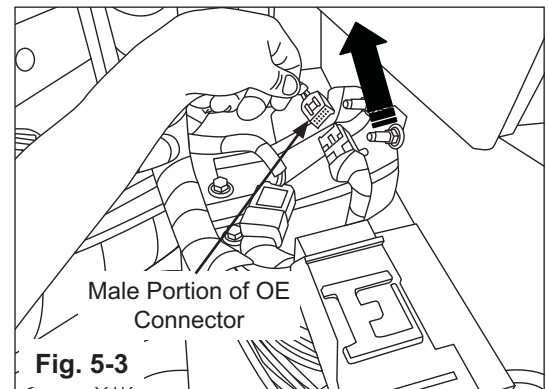

Fig. 5-3
- c) Route disconnected male portion of OE connector out from dash near A-pillar opening. (Fig. 5-3)